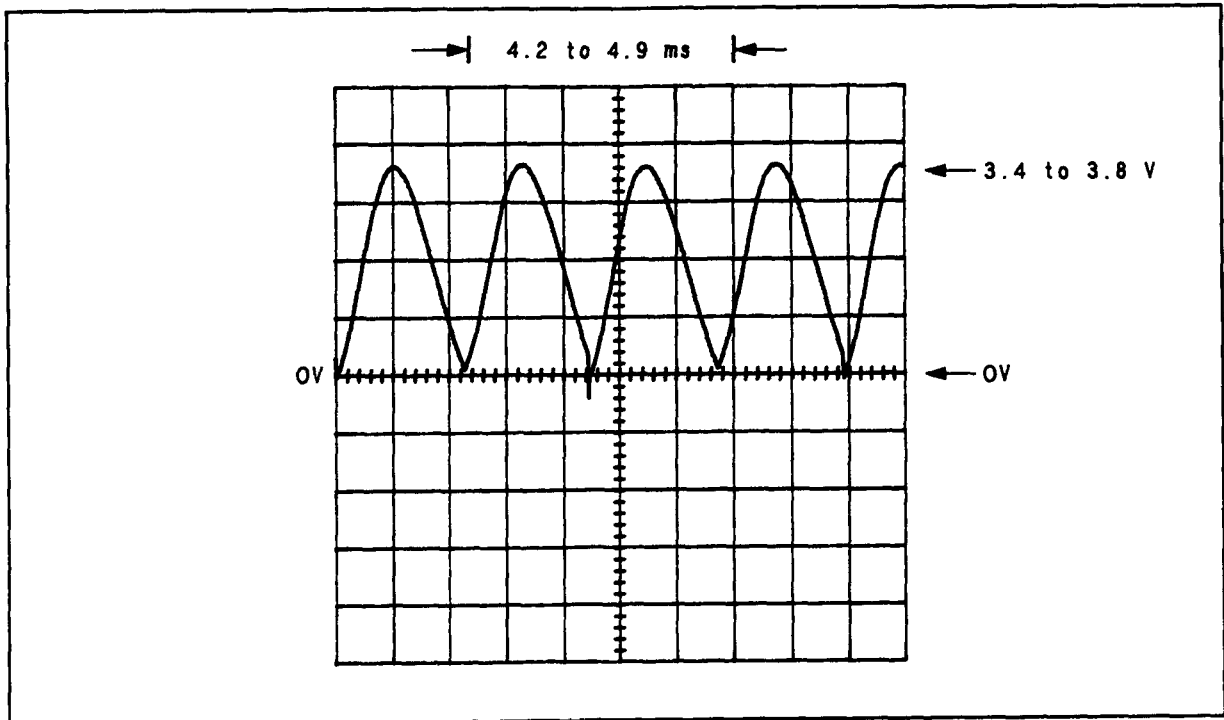

Figure 8F-7. Waveform for  $\sqrt{1}$  Step 2
2. Connect a high-impedance, dc coupled oscilloscope to A53TP2 ( $\Phi$  DET). (See Service Sheet 1.) The waveform should appear as in Figure 8F-7.